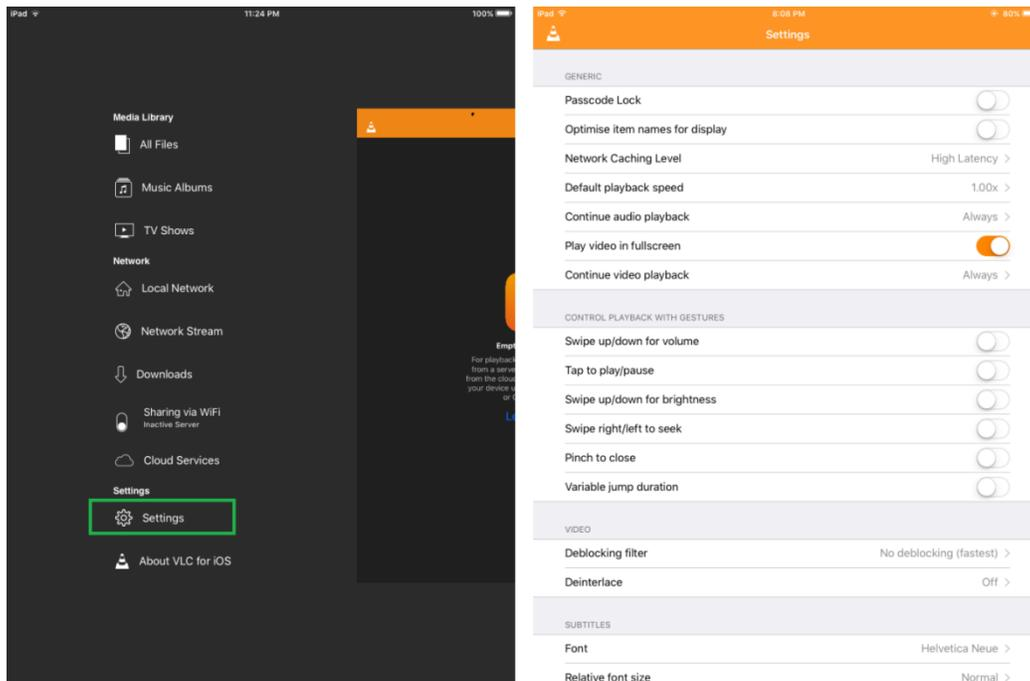

Figure 15. VLC Application Settings Tab
- Open the VLC application and navigate to the Settings tab, and use the settings shown in Figure 15.